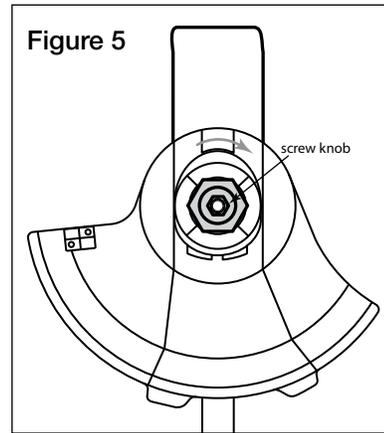

Figure 5
- 1) Remove screw knob (Figure 5).